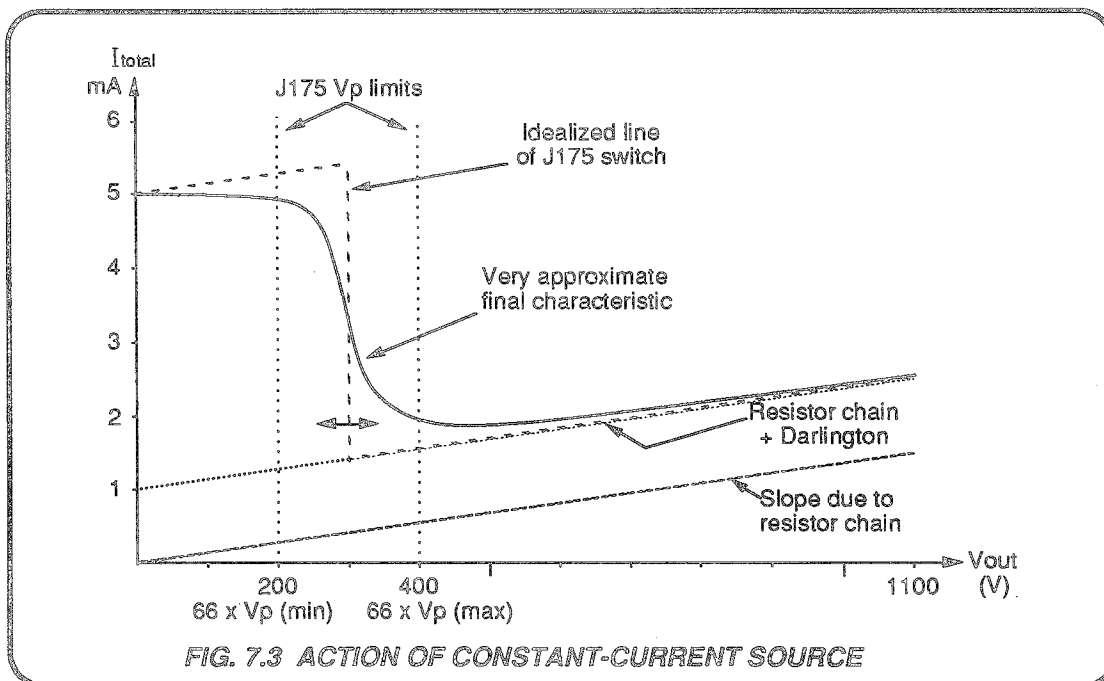

FIG. 7.3 ACTION OF CONSTANT-CURRENT SOURCE
- At higher voltages, D15-D17 limit Q11 base voltage to +2.4V, limiting the series current in R11, with Q13 pinched off. At lower voltages Q13 conducts, shunting R11 with 170-180 Ω (R10 plus Q13 'On' resistance which falls to approx 125 Ω), and increasing the discharge current. The approximate shape of the overall characteristic is shown in Fig. 7.3.